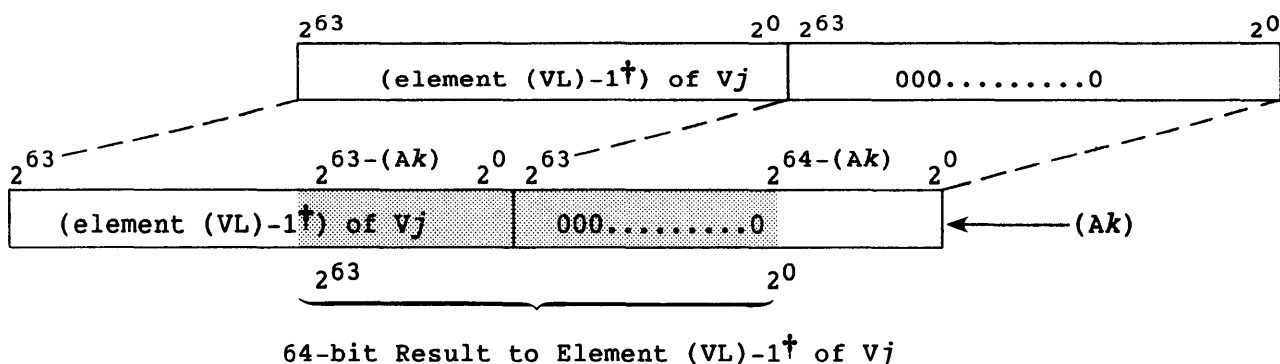

Figure 5-9. Vector Left Double Shift, Last Element
If (VL) is 2, element 1 is joined with 64 bits of 0 and only two operations are performed. In general, the last element of Vj as determined by (VL) is joined with 64 bits of zeros. Figure 5-9 shows this operation.